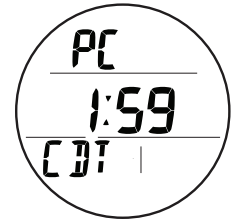

Fig. 154 - PC INTERFACE
Upon sensing an interface connection, the requesting device (PC) connects to the ATOM and is prepared for upload of settings or download of data which is then initiated using the PC program. During the process, there is a 2 minute window during which time a PC countdown screen is displayed on the ATOM (Fig. 154). Upload or download must be started during this time.